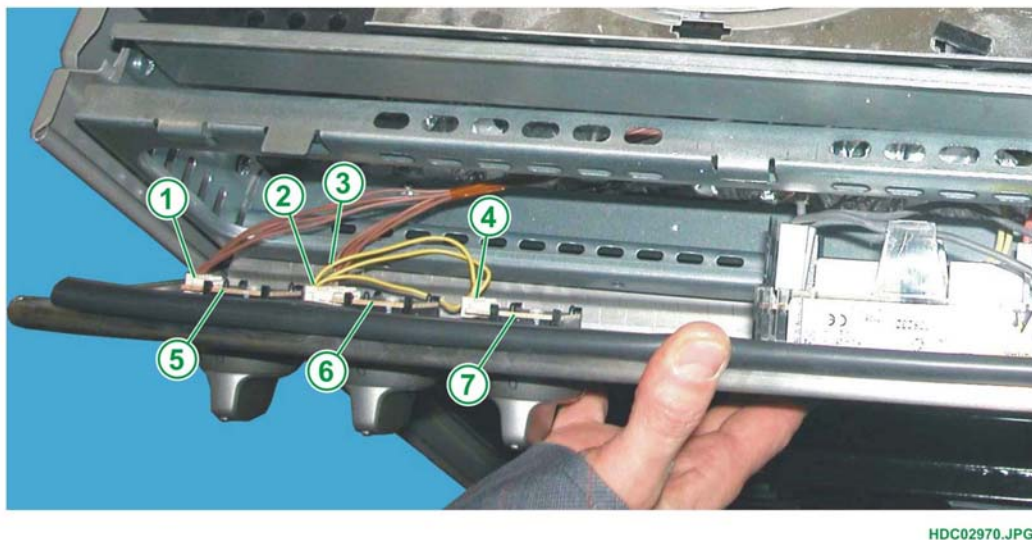

Fig. 82
5. Detach the connectors from the potentiometer (see Fig. 82).